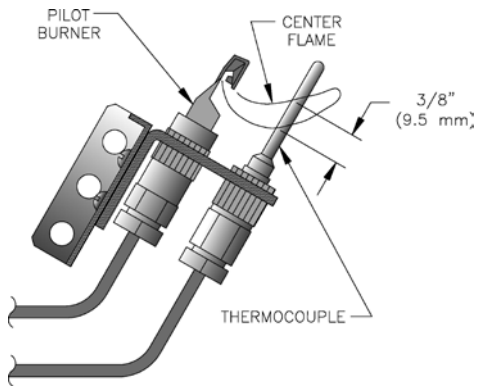

Figure 8: Pilot Burner Flame, Continuous Ignition System, Honeywell Q327 Pilot
- b. Continuous Ignition (Standing Pilot), Models IN10 - IN12. See Figure 8. Pilot burner produces three (3) flames. The center flame should be steady, medium hard blue enveloping 3/8 to 1/2 inch of thermocouple. If flames are yellow and lazy, follow instructions TO TURN OFF GAS TO APPLIANCE (see Figure 5) and contact a qualified service agency.